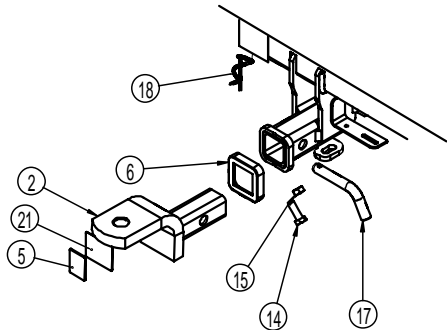

Figure 6 – Secure Tongue to Towbar.
8. Apply firm even pressure to secure the plastic hitch box cover (item 6) to the towbar. Refer to Figure 6.
9. Insert the tongue (item 2) into the hitch box and secure with pull pin and R Clips (item 17 & 18). Refer to Figure 6.
10. Secure the towball to the tongue (item 2). Refer to Figure 6.